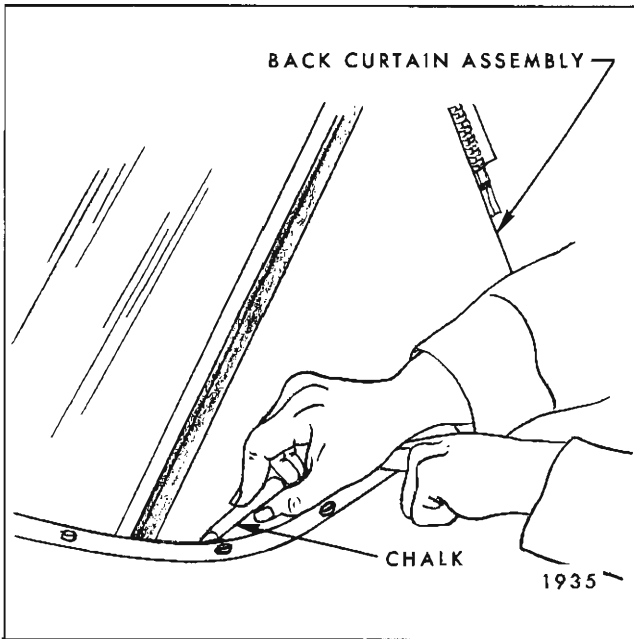

Fig. 5-I-17—Marking Back Curtain
15. Working from body center progressively out-board to right and left sides, tack back curtain upper valance to rear bow. Make sure all fullness has been drawn from back curtain assembly. Fold any excess back curtain upper valance material rearward and tack to rear bow. (Fig. 5I16).